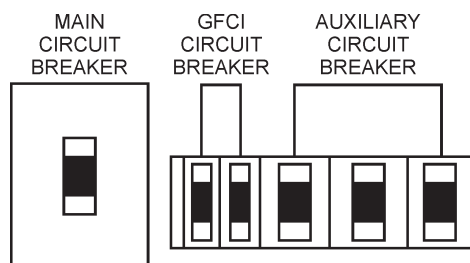

Figure 38. Main, Aux. and GFCI Circuit Breakers (OFF)
2. Place the **main, G.F.C.I., and aux.** circuit breakers (Figure 38) in the **OFF** position prior to starting the engine.